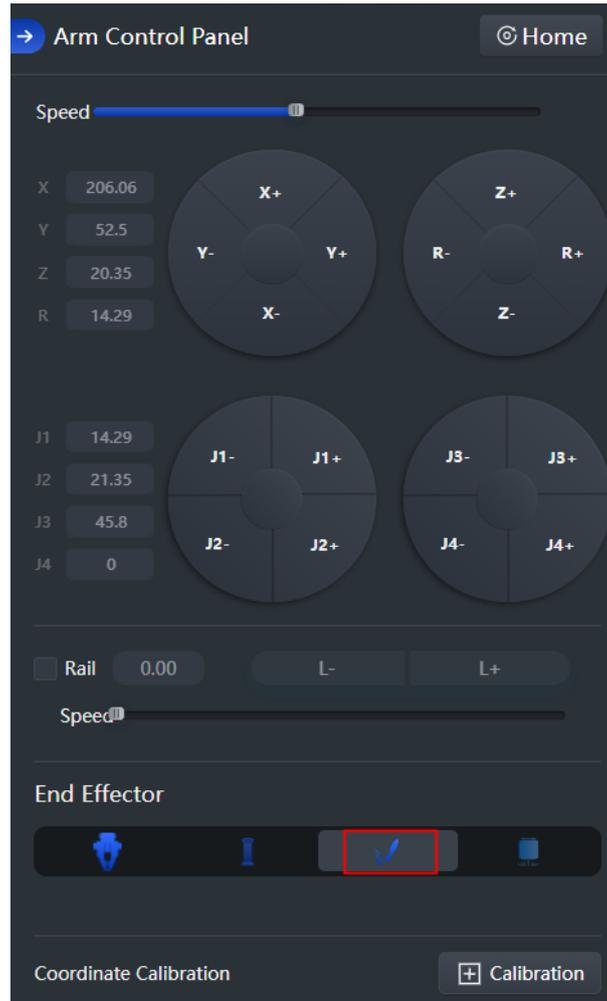

Figure 5.145 Set end-effector
- Step 1** Enter Teaching and Playback Lab. Select **Pen** from the end-effector module on the arm control panel, as shown in Figure 5.145.